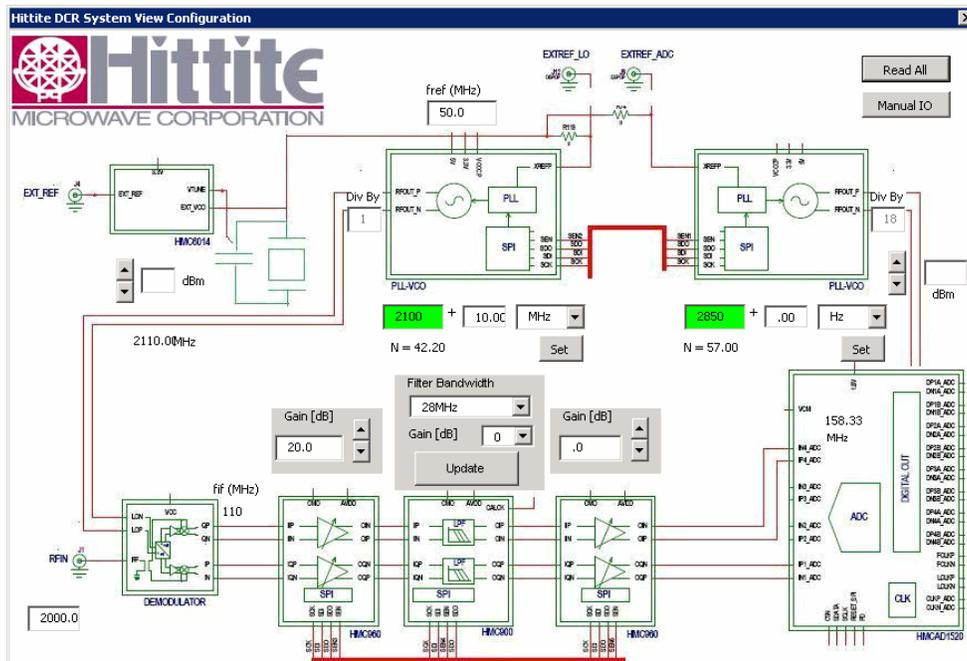

Figure 22. DCR System View with 20 dB Gain Programmed in the first VGA
12. Apply 20 dB Gain in the first VGA by clicking on the up arrow in the gain text box. The DCR System View Configuration now is shown in Figure 22.